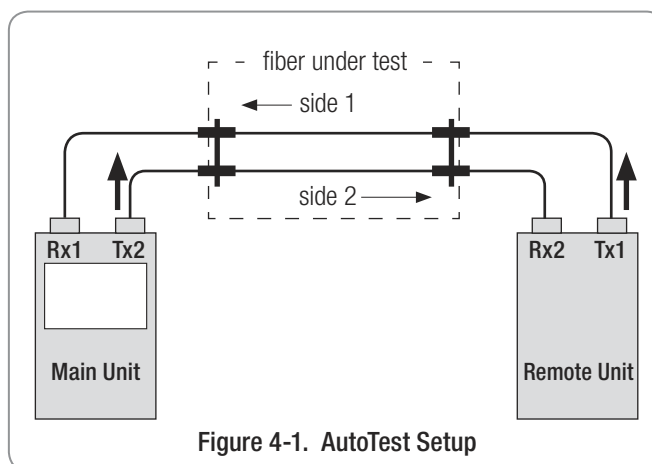
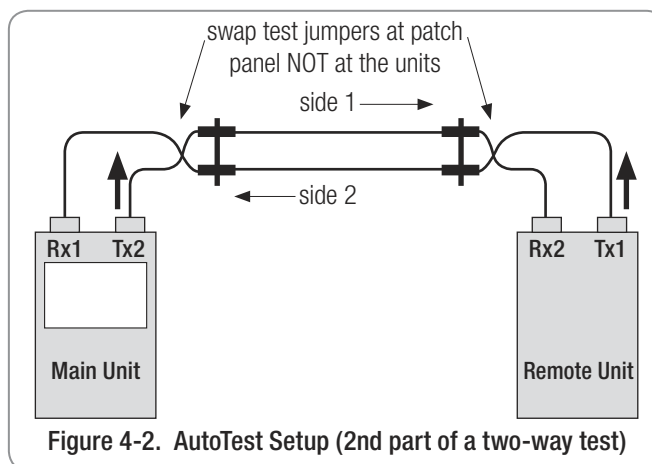

Figure 4-1. AutoTest Setup
Figure 4-2. AutoTest Setup (2nd part of a two-way test)
NOTE: To make bi-directional loss measurements, the Main Unit must be setup to perform “two-way” tests (refer to section “Selecting AutoTest Direction”). Refer to Figures 4-1 and 4-2 when conducting the following procedure. The Main Unit will prompt you to swap test jumpers (Figure 4-2)
- 5 Connect to the fibers under test (Figure 4-1)